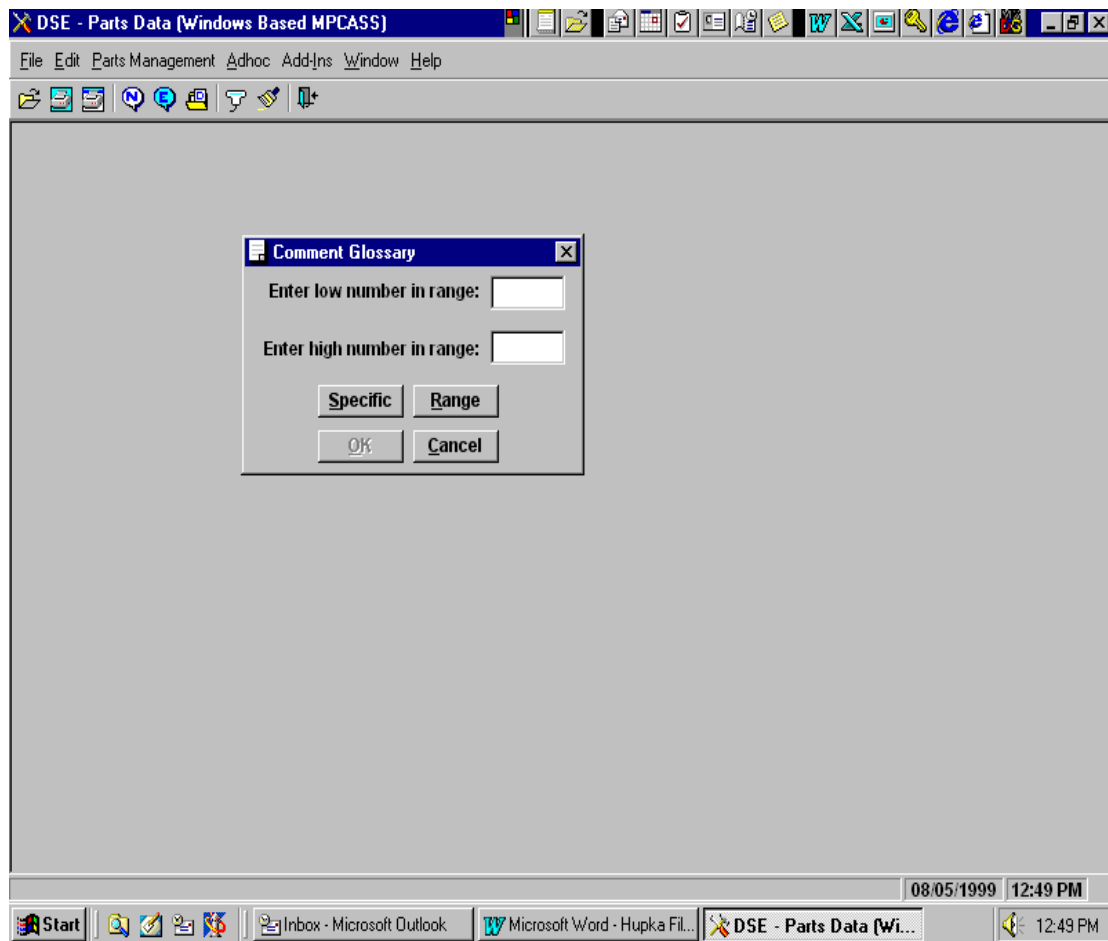

Figure 4.10d - COMMENT GLOSSARY INTERROGATION SCREEN, RANGE OF COMMENTS
c. For viewing a Range of comments. See Figure 4.10d. Click on RANGE.
(1) Enter the low comment number in the range.
(2) Enter the high comment number in the range.
(3) Click on OK.